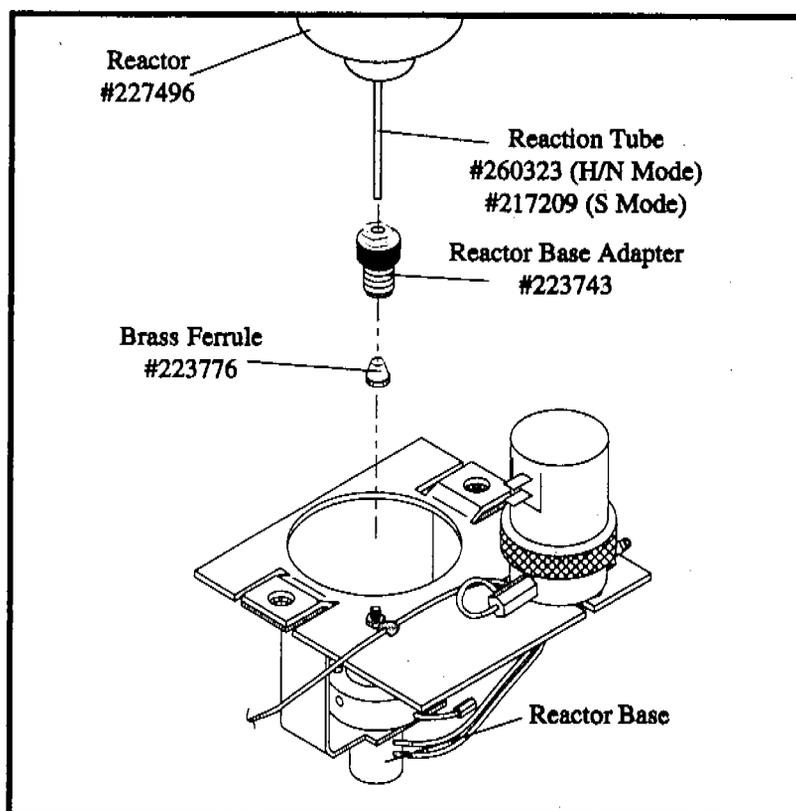

Figure 3.1. Model 5320 ELCD
- Install the reaction tube and brass ferrule (Part #223776) into the reactor base by tightening the reactor base adapter (Part #223743) with a 1/4" nut driver (supplied in start-up kit). See Figure 3.1. Verify that the reaction tube is fully seated into the reactor base.